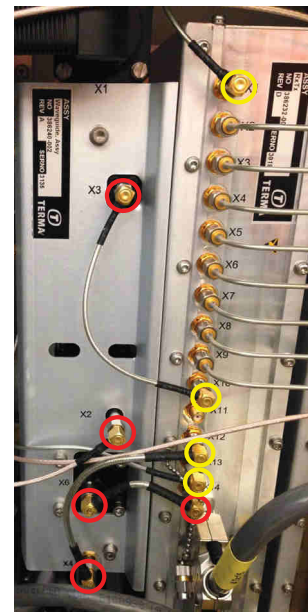

Fig. 7.40 Connectors
All these connections to be removed are shown with red circles on Fig. 7.40 \(p. 144\).
- 8 Loosen SMA connectors on RxTx marked with a yellow circle (X1, X10, X12, and X13) - see Fig. 7.40 \(p. 144\) and turn the cables upwards or downwards so the waveguide assy has free passage when it is taken out. For doing this, the connectors should be loosened just a little bit. Use tools 13/14.